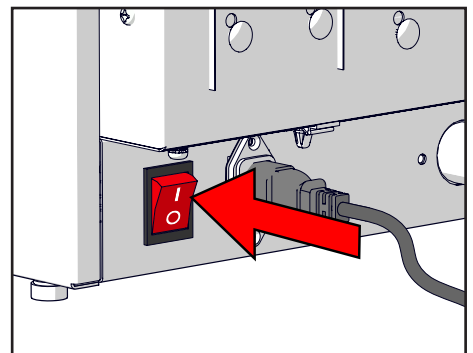

Figure 10.
13. Switch on the machine using the switch at the rear of the machine (see Figure 10).
Switch the machine on with the ON/OFF switch on the rear of the machine. The machine starts and heats up (see Figure 10).